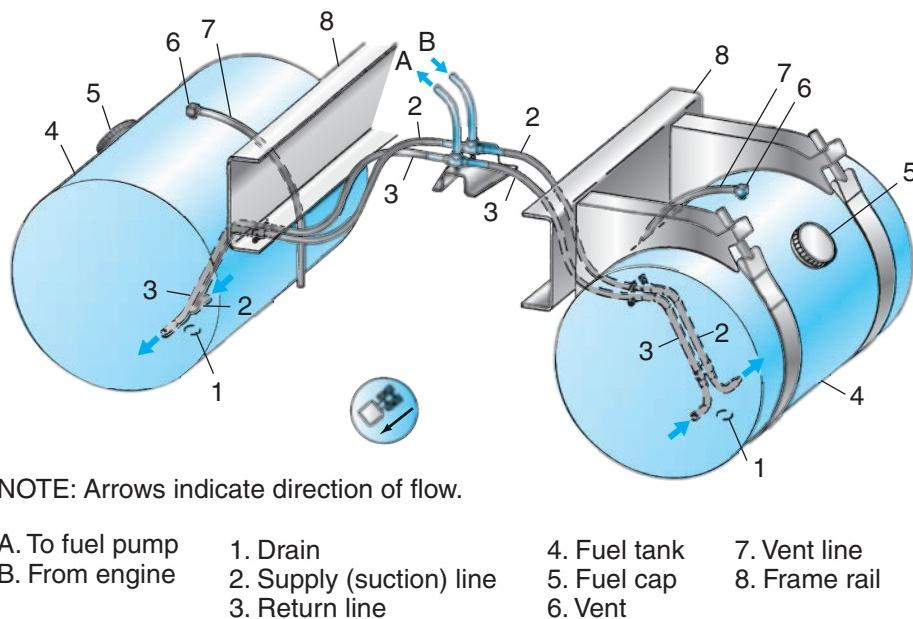

Figure 12-3 Dual fuel tank arrangement that eliminates the fuel crossover pipe. (Courtesy of Freightliner)
balances the considerable weight of onboard fuel as it is consumed. A typical fuel tank arrangement is shown in **Figure 12-3**. Many diesel fuel management systems are designed to pump much greater quantities of fuel through the system than that required to actually fuel the engine. The excess fuel is used to:
The fuel tank is always a chassis OEM-supplied component. **Figure 12-3** shows a typical truck fuel tank. Because one of the roles of a fuel tank is to transfer heat from the fuel it circulates to atmosphere, it plays a role as a heat exchanger. A vehicle fuel tank will function most effectively as a heat exchanger if the following is true:
1. Located in the airflow. Truck fuel tanks tend to be mounted in cradle brackets bolted to the outboard side of laddered frame rails such as those shown in **Figure 12-3**. This ensures fairly
2. Cylindrically shaped. A cylindrically shaped container as shown in **Figure 12-3** exposes a greater percentage of its surface area to the airflow. A cylindrical shaped tank is less flexible than one that is rectangular in shape. This means that cylindrical tanks can be made with a thinner wall thickness, resulting in a lighter fuel tank.
A **crossover pipe** connects a pair of fuel tanks at their lowest point. This means that they have low road clearance and can be damaged by road debris and animals. Although the crossover pipe is protected by an angle iron bracket this does not provide much protection. In addition, the crossover is also exposed to the airflow under the truck, which means that in the middle of winter, any water collected in the crossover pipe can freeze. When crossover lines freeze up, alcohol (methyl hydrate) has to be added to the fuel tanks. Because of these disadvantages, most current trucks use the dual fuel tank design shown in **Figure 12-3** that eliminates the crossover pipe. Y- or T-type pickups are used on today's fuel subsystems.